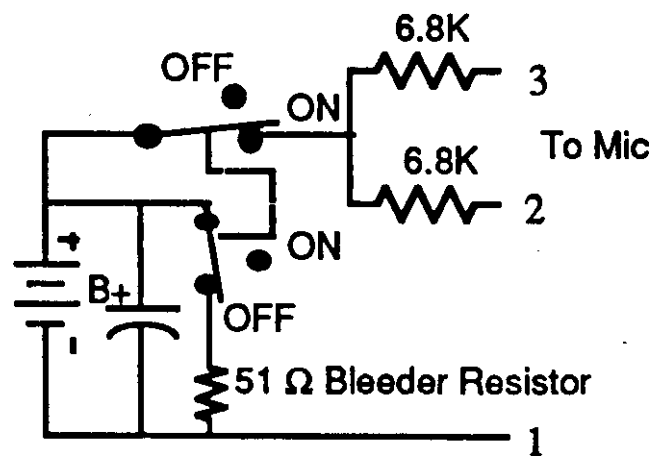

Fig. 3. Phantom supply with bleeder resistor.
2. If the mic inputs of two consoles are connected in parallel, the mic input of the second console might be loading down the power supply of the first. That can occur as follows: When the second console's phantom is switched off, a bleeder resistor is switched across the capacitor connected across B+ (Figure 3). This resistor draws excessive current from the other console's supply, dropping its voltage.